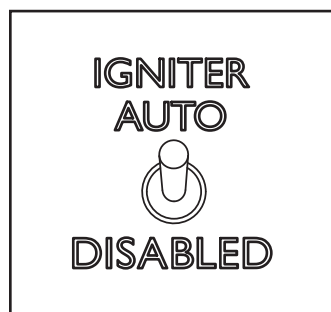
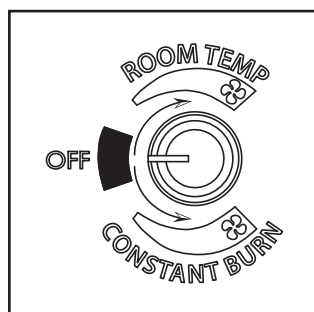

Figure 4.4
Figure 4.5
4. Flip toggle switch to desired mode “Auto or Disabled”. Figure 4.4. Set feed limit knob to desired setting and turn mode dial to “Room Temp” or “Constant burn” Figure 4.5.